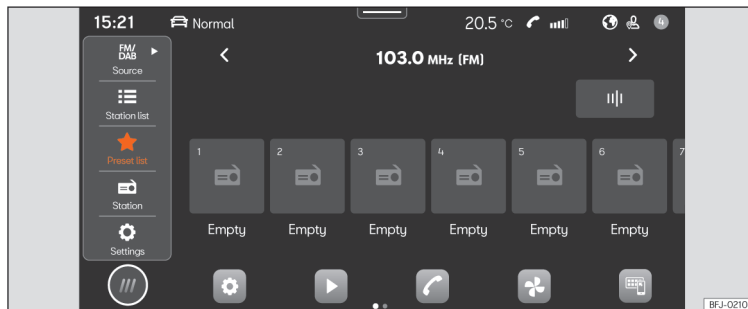

Fig. 159 Schematic diagram: Radio view.
- Press **HOME** > >>> **Fig. 159**.